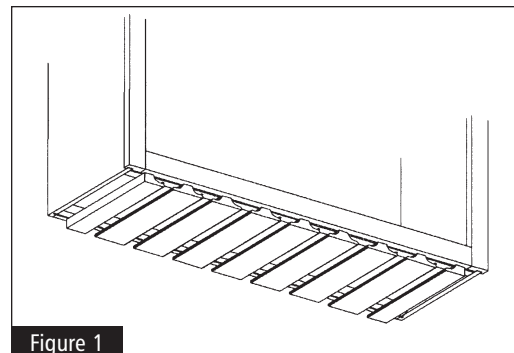

Figure 1
- 2** Using pre-drilled holes in mounting strips (four per strip), pilot drill 1/8-in diameter holes to a depth of 3/8-in and fasten to the bottom of the cabinet with (8) #8 x 1-in Phillips screws. See Figure 1.